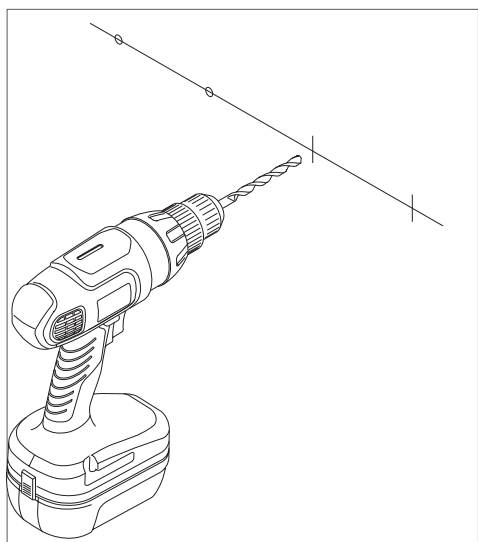

Figure 3
6. Drill out the marked holes using a drill with a 1/4" drill bit. (Figure 3).